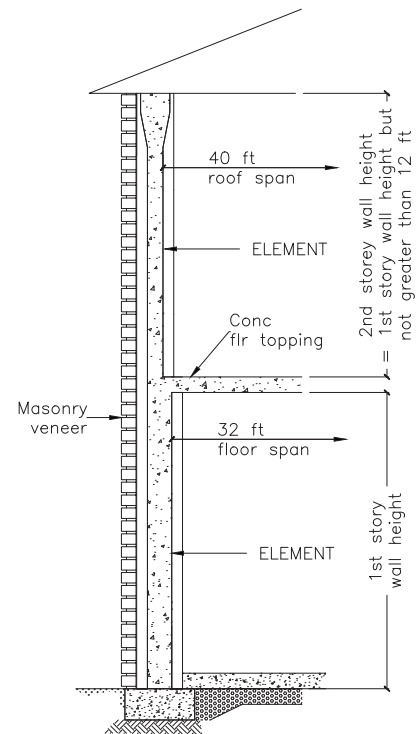

Fig 3C
- Two storey Element supporting wood roof frame (Fig. 3C)